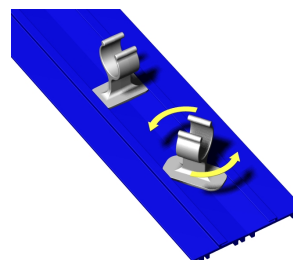

Figure 3: Snapping the clip onto the peg.
- b. Twist the peg clips in the slot so the edges of the slot capture the clip (see Figure 3).